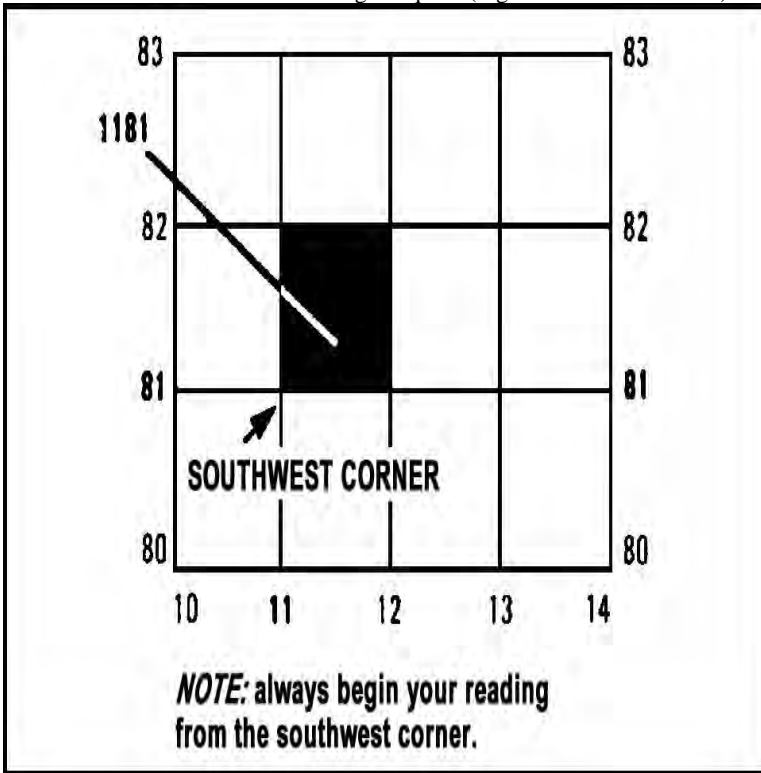

Figure 071-COM-1002-1. Identifying the Grid Square
1. Determine the coordinates of the grid square (Figure 071-COM-1002-1).
- a. Select the grid square that contains the identified point on the map (see Figure 071-COM-1002-1).
- b. Read the north-south grid line that precedes the desired point (see Figure 071-COM-1002-1).